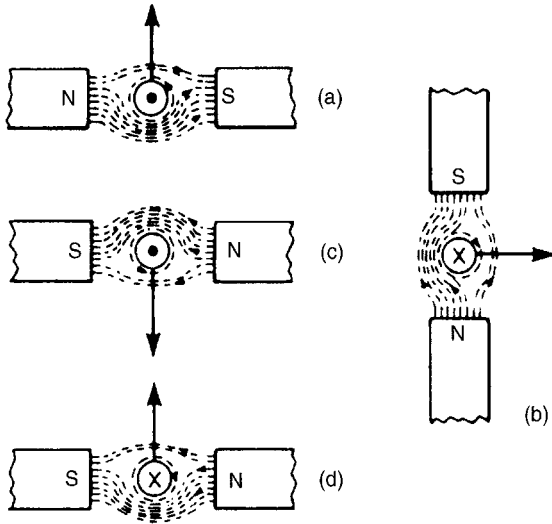

Figure 8.16
- The direction of the main magnetic field is from north to south, i.e. left to right. The current is flowing towards the viewer, and using the screw rule, the direction of the field is anticlockwise. Hence either by Fleming's left-hand rule, or by sketching the interacting magnetic field as shown in Fig. 8.16(a), the direction of the force on the conductor is seen to be upward.
- Using a similar method to part (a) it is seen that the force on the conductor is to the right — see Fig. 8.16(b).
- Using Fleming's left-hand rule, or by sketching as in Fig. 8.16(c), it is seen that the current is toward the viewer, i.e. out of the paper.
- Similar to part (c), the polarity of the magnetic system is as shown in Fig. 8.16(d).